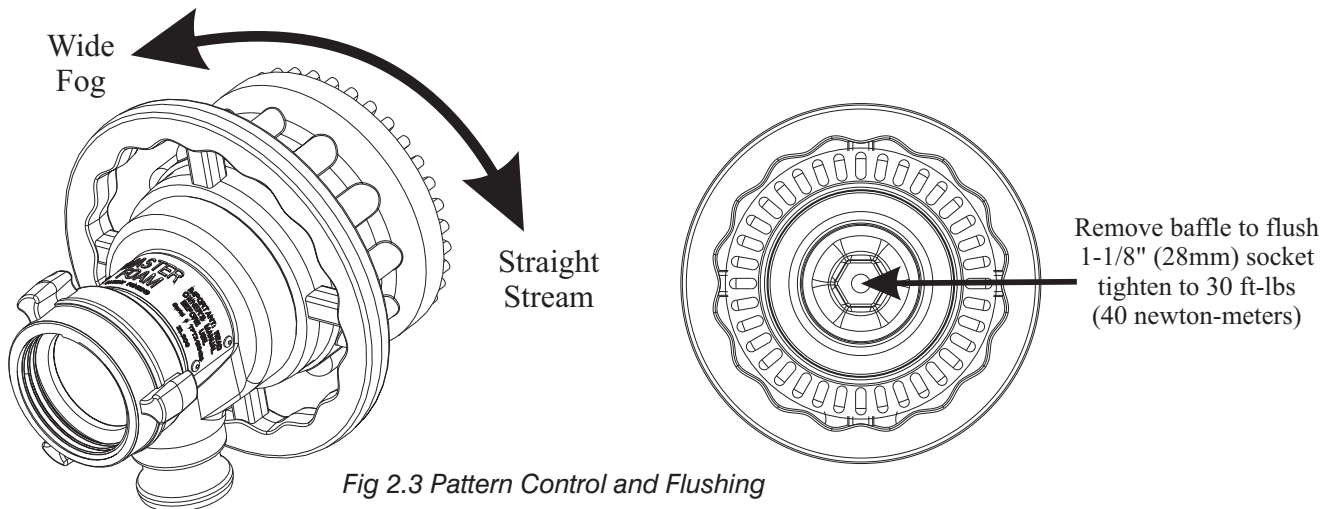

Fig 2.3 Pattern Control and Flushing
The MASTER FOAM's spray pattern is adjustable from straight stream to a 90° wide fog. Turning the stream shaper clockwise (as seen from the operating position behind the nozzle -see figure 2.3) moves the shaper to the straight stream position. Turning the shaper counterclockwise will result in an increasingly wider pattern. Only 90° of rotation is required to go from wide fog to straight stream. The widest pattern is useful for protection and cooling but doesn't educt foam.
- Unscrew baffle (see figure 2.3) using 1-1/8 inch (28mm) socket.